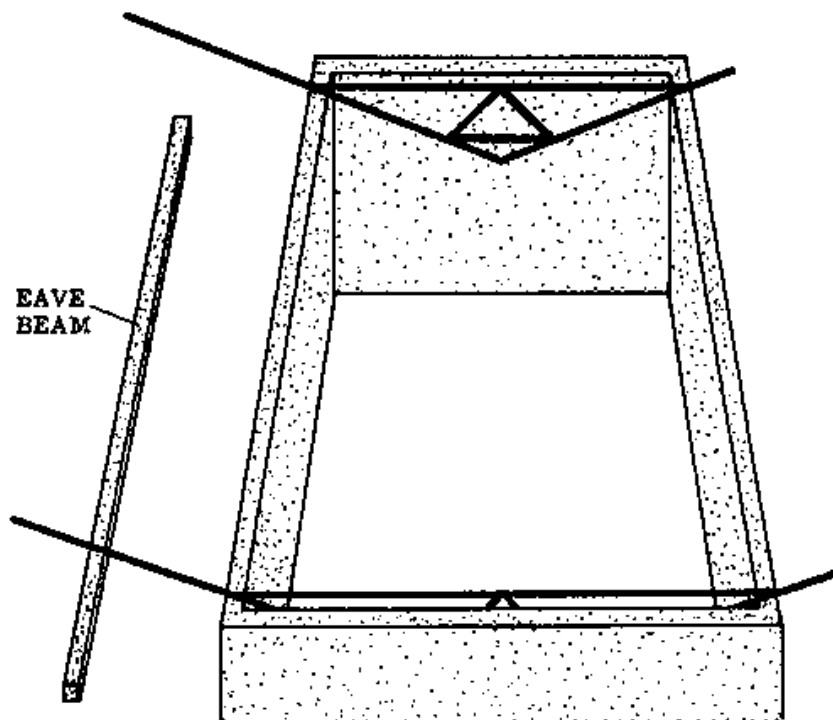

Fig. 1
a. Hang a truss upside-down across the span of the building, at each gable end (Fig. 1).